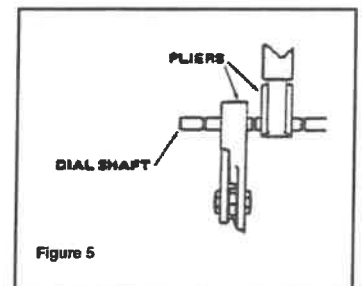

Figure 5
10. To break off the shaft: Use two (2) pairs of pliers – one on each side of the marked groove (figure 5). Hold pliers firmly and break shaft. DO NOT HOLD SWITCH BODY.